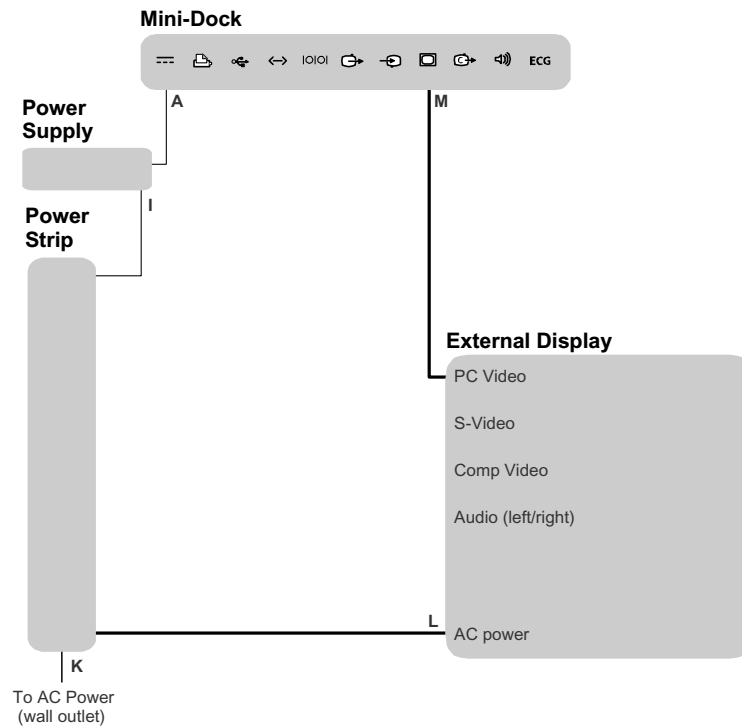

Figure 5 Connectivity of External VGA Display on MDSe
- Connect cables 1 (VGA display)** Connect the cables. See Figure 5 and “Cables, Connectors, and Mini-Dock Symbols” on page 17.